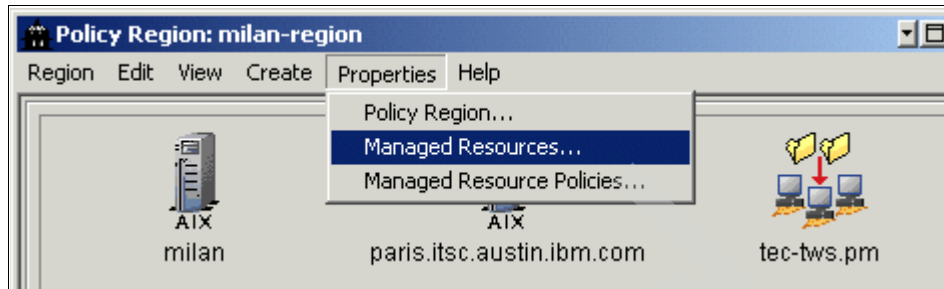

Figure 8-20 Configuring Managed Resources of a Policy Region
5. Select the **Properties** menu, and then select **Managed Resources...** as shown in Figure 8-20 on page 356.